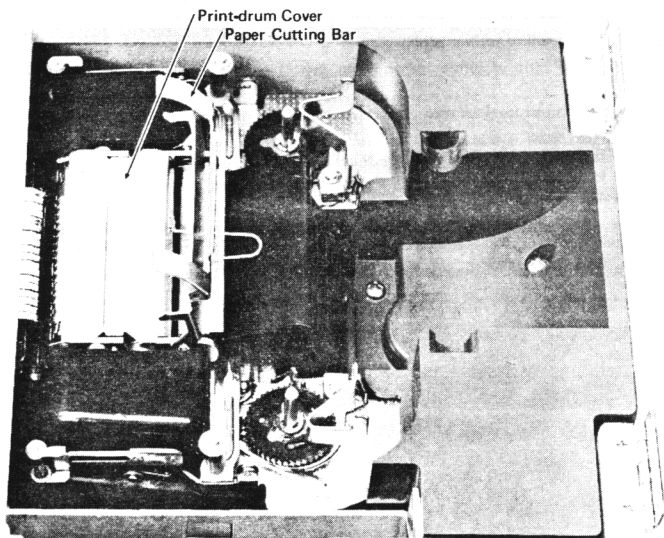

Figure 3-1. The Cutting Bar and Print-drum Cover.
2. Lift the printer access cover and remove the paper cutting bar and print-drum cover (see Figure 3-1) by pulling each device up until it releases.